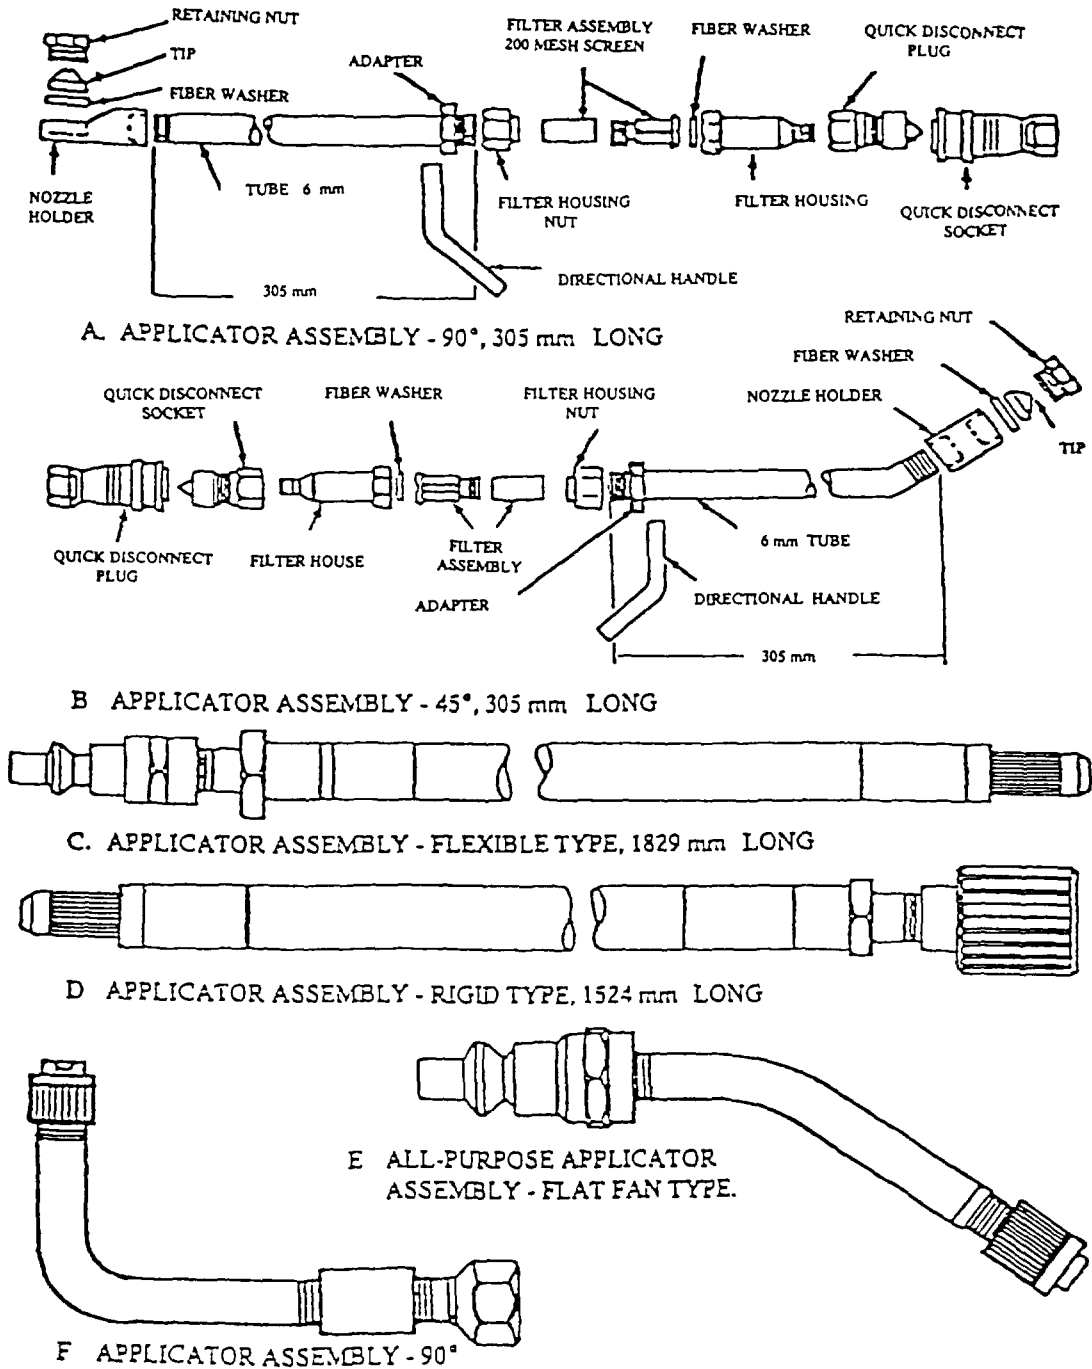

FIGURE 1. Applicator assemblies.
4.3.3.1 Applicator assembly (90°) An applicator 304.8 mm (12 in) long with a 90° angle, bent 38.1 mm (1.5 in) from nozzle end, with a flat spray nozzle, having a 0.66 mm (0.026 in) spray orifice, and a rigid straight spray, should be used to spray the interior surfaces or boxed-in sections of vehicles and trailers. This wand assembly consists of a tip, nozzle, tube, nut, ferrule, coupling, filter assembly, and quick-disconnect plug (see figures 1.A and 1.F). Due to extremely high operating pressures, it is important that all connections be properly tightened to prevent leakage of rust proofing material.
4.3.3.2 Applicator assembly (45°) An applicator with a straight-through flat pattern, 304.8 mm (12 in) long with a 45° angle, bent 38.1 mm (1.5 in) from nozzle end, should be used to spray exterior underbody panels and frame rails. The nozzle used with this applicator assembly has a 0.66 mm (0.026 in) orifice (see figure 1.B).
4.3.3.3 Flexible applicator assembly A flexible applicator, 1828.8 mm (72 in) long with a straight-through cone, pattern nozzle (see figure 1.C), should be used primarily for fog spraying on enclosed curved sections and rocker panels.
4.3.3.4 Rigid applicator assembly A rigid spray applicator 1524 mm (60 in) long with a straight through cone pattern nozzle (see figure 1.D), should be used for fog spraying of door panels and other enclosed body areas.
4.3.3.5 All purpose applicator assembly An all purpose applicator with a flat-fan spray applicator (see figure 1.E), should be used to spray vehicle areas that cannot be reached with foregoing applicators.